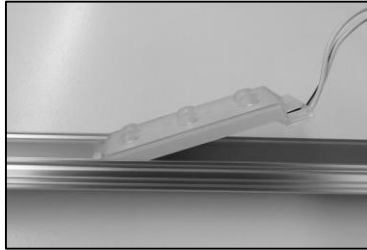

Figure 3
- 3.3.6 Snap the BoxLED Plus modules into the track by first inserting one end of the module into the track (Figure 3) and then pushing the other end down to snap it into place